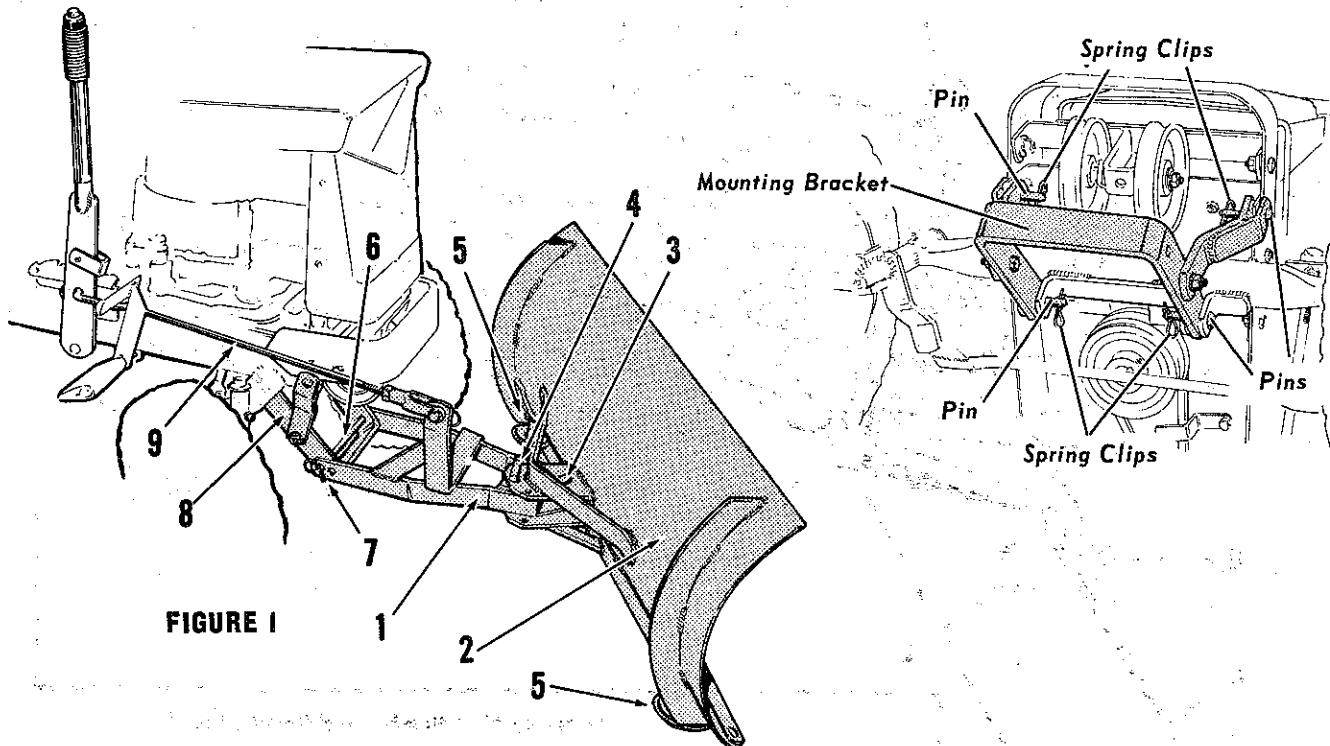

FIGURE 1
Refer to Figure 1. Attach the push bar (1) to the blade (2), using a king pin (3) and install a cotter pin through the king pin. Install the pivot pin (4) through the blade assembly bracket and the push bar.